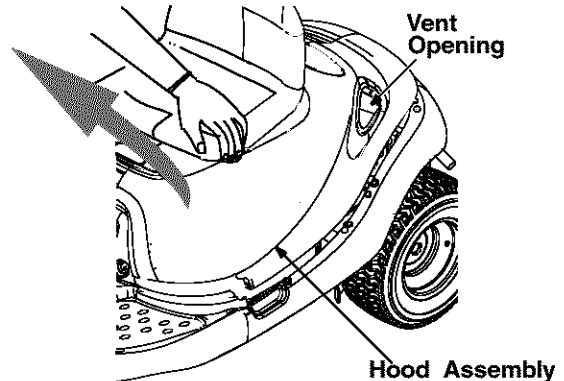

Figure 1
2. To access the grass catcher, lift the hood assembly from the left side of the hood only. Stand on the right side of the unit and pivot the hood assembly towards you until fully opened. See Figure 1 .